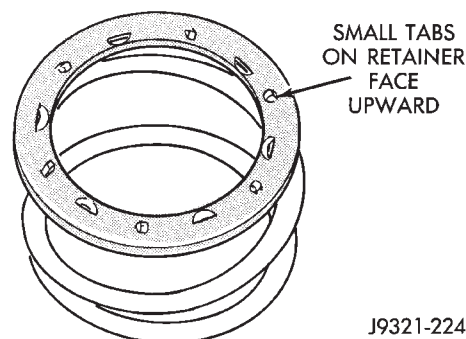

Fig. 63 Correct Spring Retainer Installed Position
(6) Position spring retainer on top of piston spring (Fig. 63). **Make sure retainer is properly installed. Small raised tabs should be facing upward. Semicircular lugs on underside of retainer are for positioning retainer in spring.**